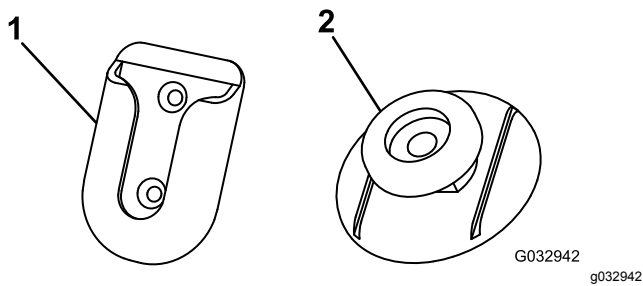

Figure 14
3. Clean the back of the swivel mount (Figure 14) with the alcohol wipe and then dry it.
7. Remove the backing from 1 side of the adhesive and apply it to the back of the mounting tab (Figure 14).